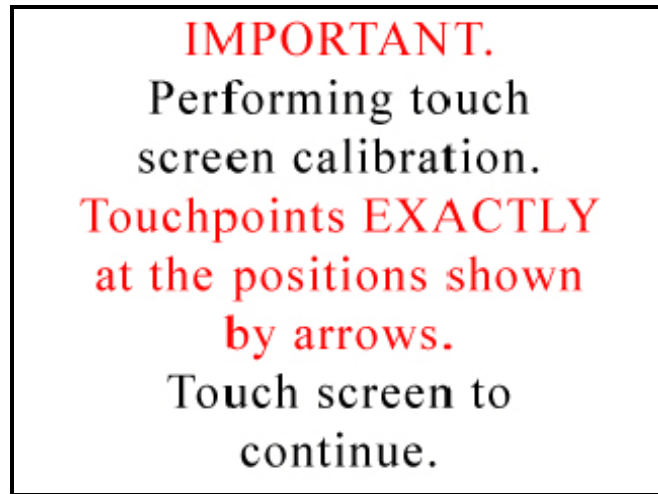

Figure 5-27 Alignment step 1
- The following screen appears. Touch the circle in the lower left corner as shown in Figure 5-27.